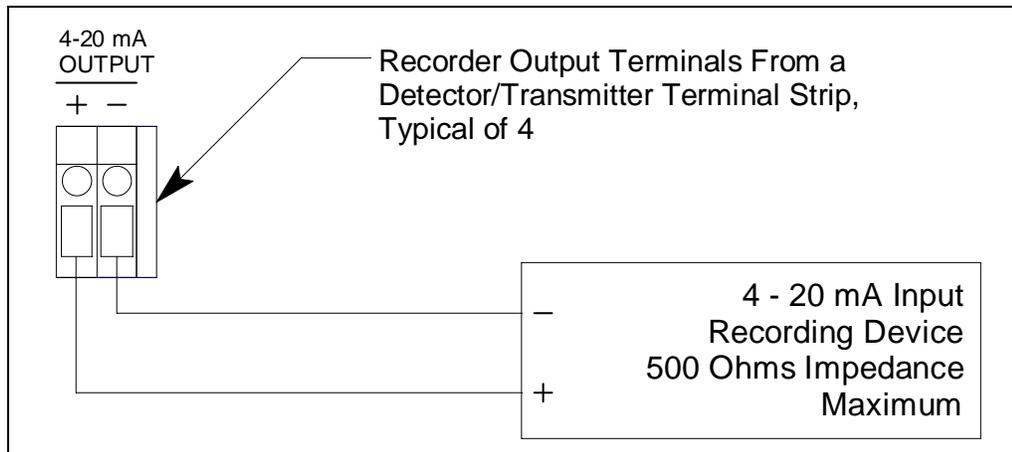

Figure 16: Recorder Output Wiring
- Connect the leads from the recording device to the recorder output terminals of the selected active channels as shown in Figure 16 below